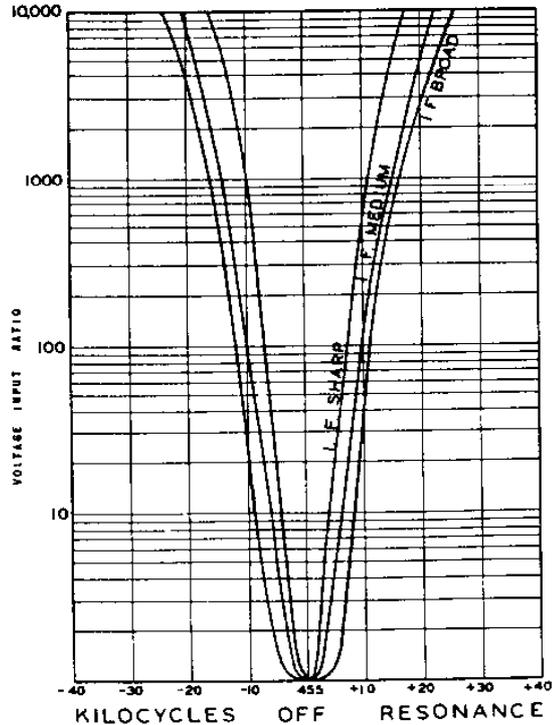

Figure 14. Selectivity Curves
(7) **SELECTIVITY Control.** This control determines the sharpness of the response. Six degrees of selectivity are provided, ranging from CRYSTAL SHARP for c-w code reception under difficult receiving conditions to NORMAL BROAD response for high fidelity reception. (See Fig. 14 for i-f selectivity curves.)